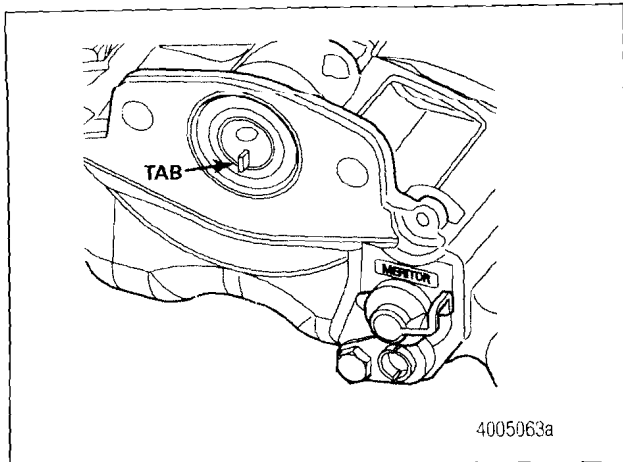
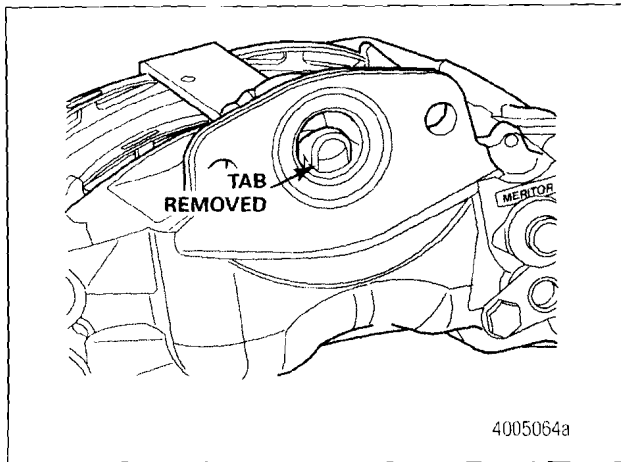

Figure 9
Figure 10
6. Ensure that the perforated transit plug is removed from the caliper chamber seal by pulling the tab. Figure 9 and Figure 10.